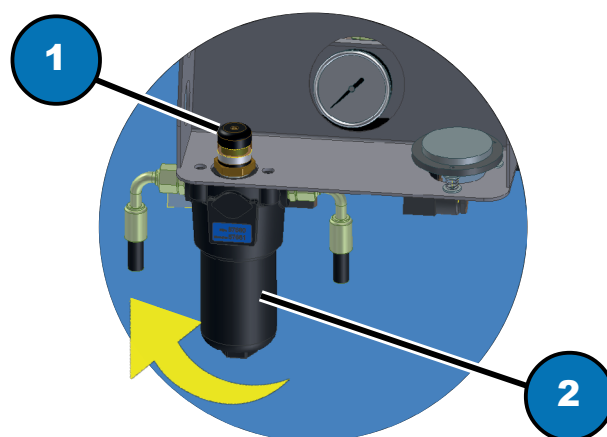

Fig. 8.3
There is a filter near the tank (Fig. 8.3, 2). Each time the machine is used, check that the filter clogging indicator (Fig. 8.3, 1) is green. This check must be carried out in the operational phase. If the indicator is in the red area, replace the filter. Replace the filter after the first 100 hours and then every three months or 500 hours. Observe the checks and recommended intervals between replacements, as clogging of the filter affects the working order of the machine and can damage hydraulic components.
- unscrew the filter (Fig. 8.3, 2) using the special key if necessary;